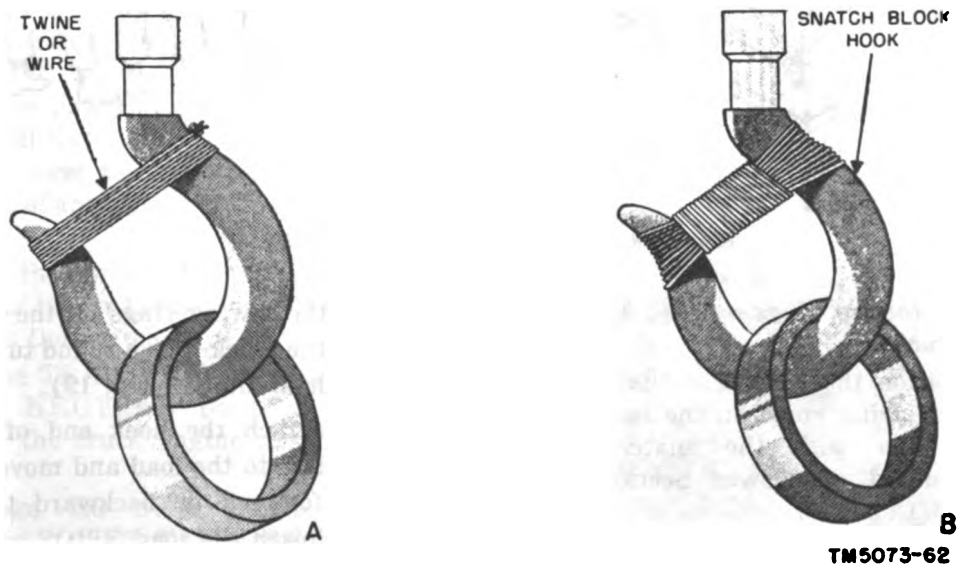

Figure 17. Mousing a hook.
f. As a safety measure, the hook of the snatch block should be *moused* to prevent the hook from falling off the coupler. To mouse the hook, wrap 8 to 10 turns of wire or heavy twine around the two sides of the hook (A, fig. 17). Finish off the mousing by wrapping several turns around the sides of the mousing and tie the ends securely (B, fig. 17).